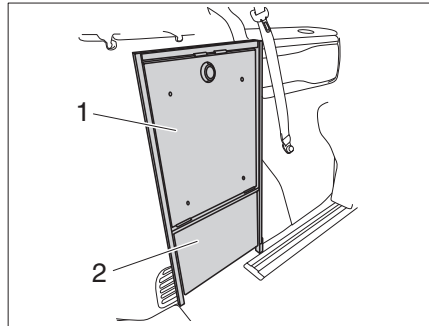
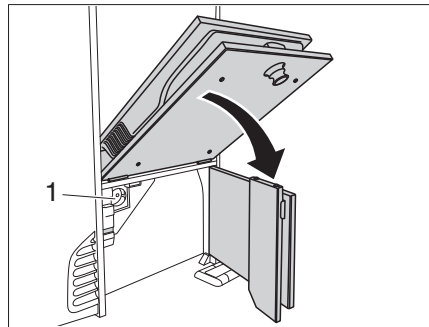

Fig. 28 Access flaps
Fig. 30 Induction hob access flap
The induction hob in the VANSTER is located underneath the induction hob access flap (Fig. 28,1) on the left side of the vehicle.
- Open the power supply access flap (Fig. 28,2).
- Open the induction hob's access flap (Fig. 28,1) and fold downwards (Fig. 30).
- Insert the induction hob's mains plug into the outlet (Fig. 30,1).